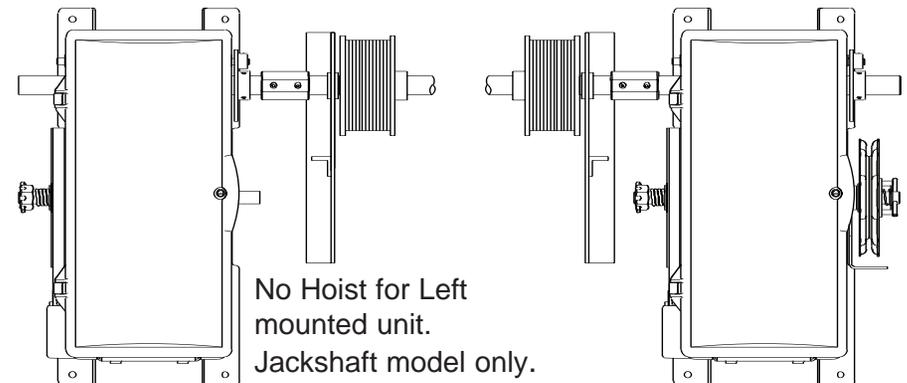

Figure 3
- 4) Slide coupling onto operator shaft on desired side (**Do Not** mount hoist model on left). **Fig. 3**.